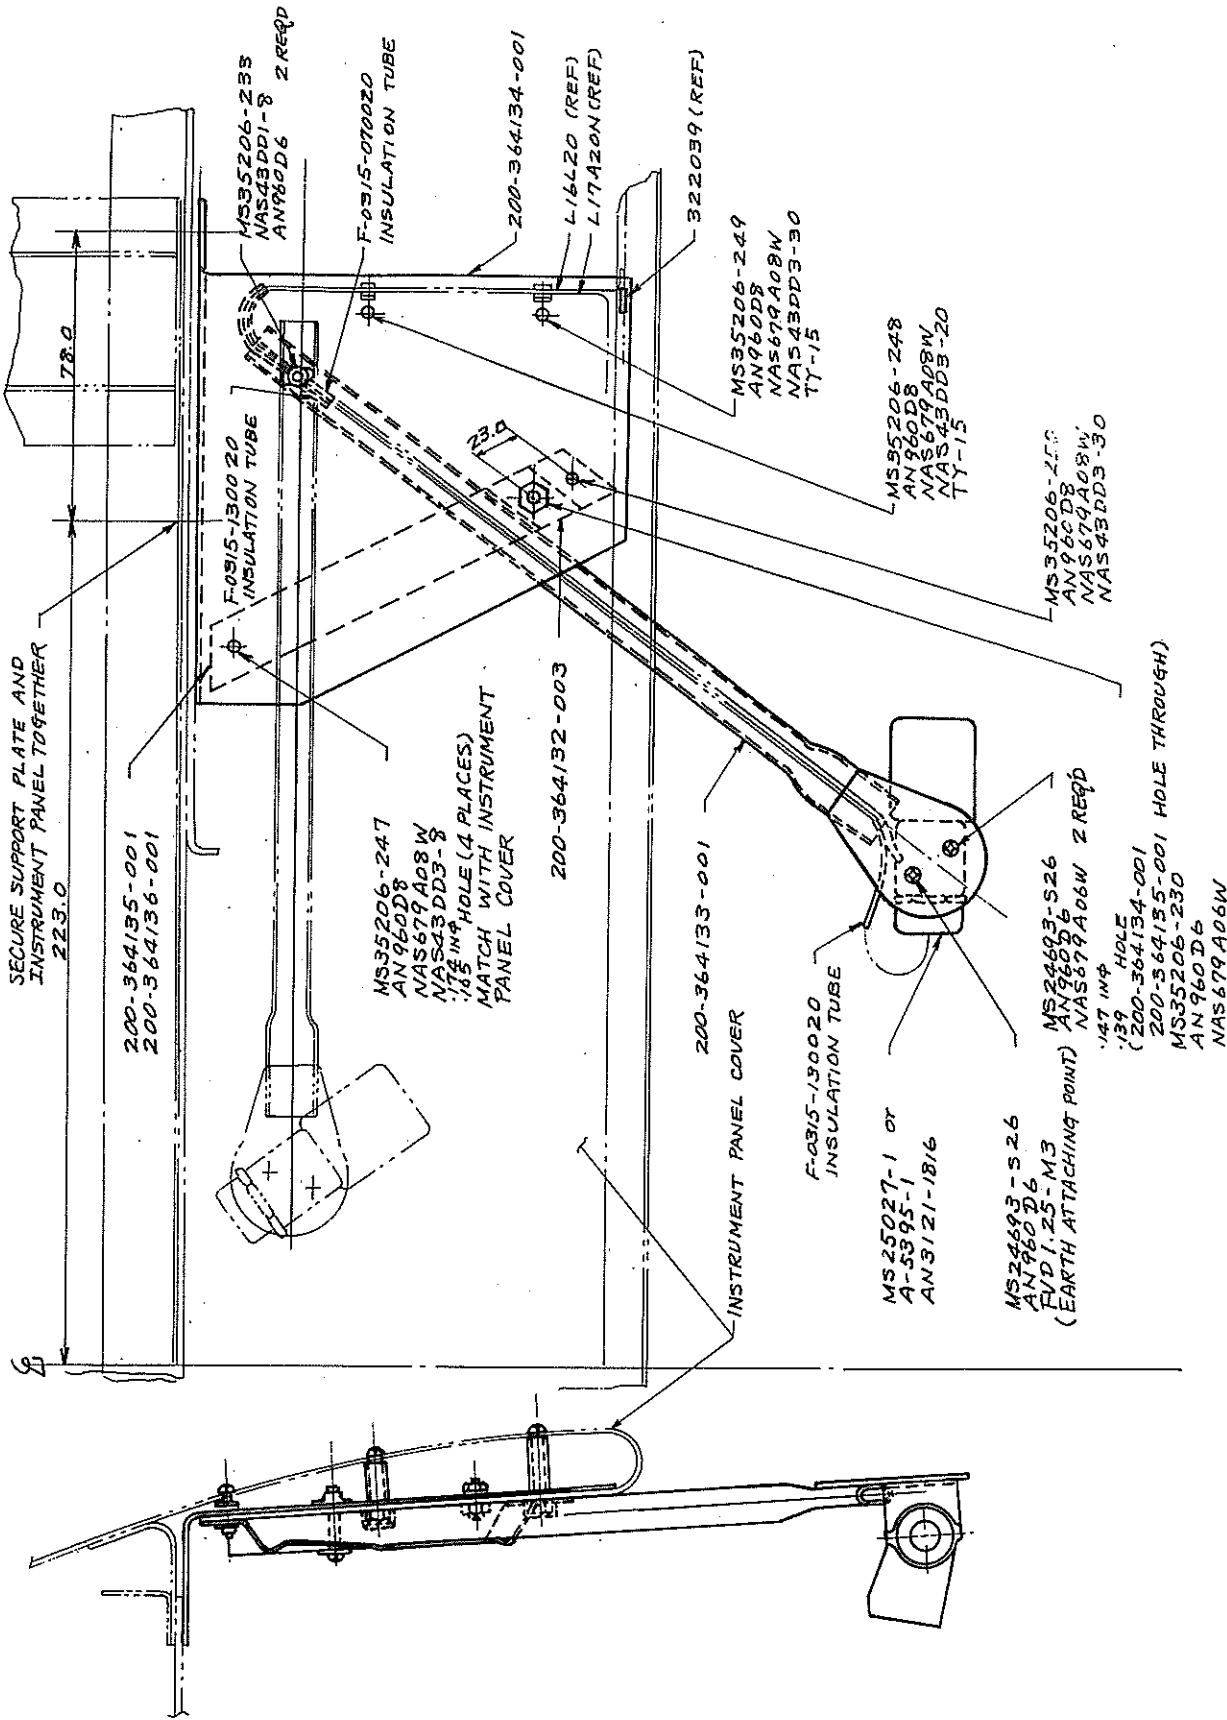

FIG. 1
- o. Insert insulation tubes, F-0315-070020 and F-0315-13020, into each end of arm assembly, 200-364133-001, as shown in figure 1. Through these tubes, pass harness, L-17A20N (earth) and L16L20 (power supply). Attach terminal, FVD1.25-M3, to the end of the earth wire, and then install light assembly, MS25027-1 (or A-5395-1), and the terminal together on the arm assembly, using screws, MS24693-526, washers, AN960D6, and nuts, NAS679-A06W. Connect power supply harness with the light assembly, referring to figure 6, detail C.
- q. Attach the assembled arm and support plate to the instrument panel cover with the arm sandwiched between bracket, 200-364135-001, and slide plate 200-364136-001. Using the four holes provided in step 14, secure with screws, spacers, nuts, and washers as shown in figure 1. Also secure the harness with ty-rap, TY-15, as indicated in figure 1.
- r. Drill a .147/.139 in diameter hole through the support plate and bracket as indicated in figure 1, and install stopper, 200-364132-003, with screw MS35206-230, washer, AN960D6, and nut, NAS679A06W.